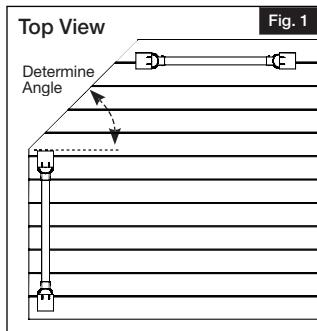

Fig. 1
- 1** After posts have been installed, determine angle and height of railing (Fig. 1).